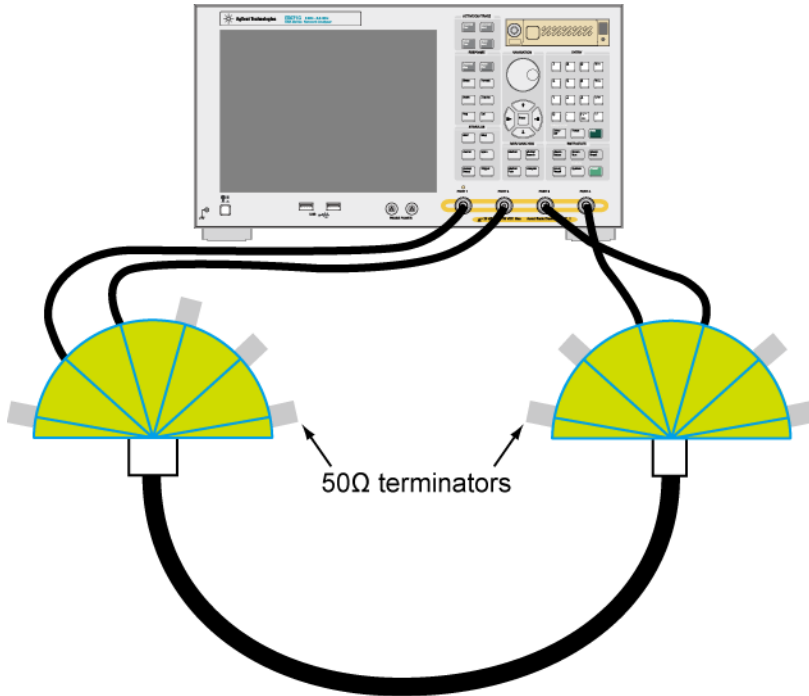

Figure 5-2 Connection Example for Connector Impedance Measurement
1. Connect the test fixture to the test port cables according to the Figure 5-2 Connection Example for Connector Impedance Measurement. Unused terminals should be terminated.